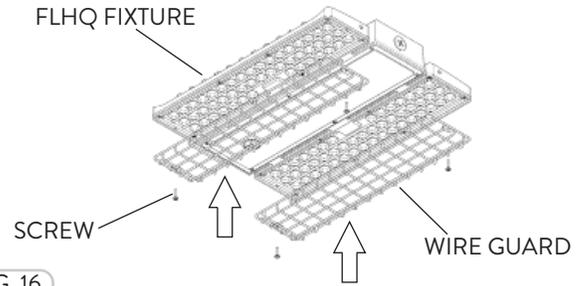

FIG. 16
- 1 The Wire Guards are in various sizes for the corresponding FLHQ fixture chosen (Fig. 16).